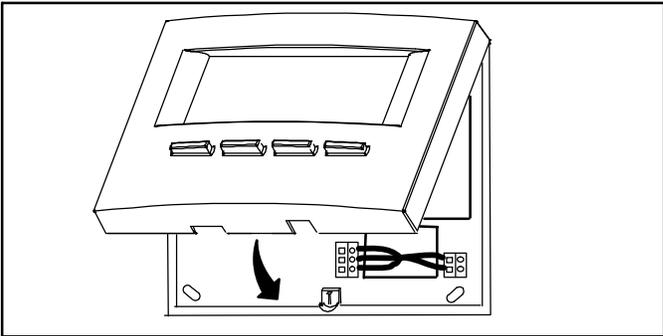

Figure 4. Replacing Baseplate
4. Align hinges with top panel in open position. Pivot the panel closed. See figure 4.